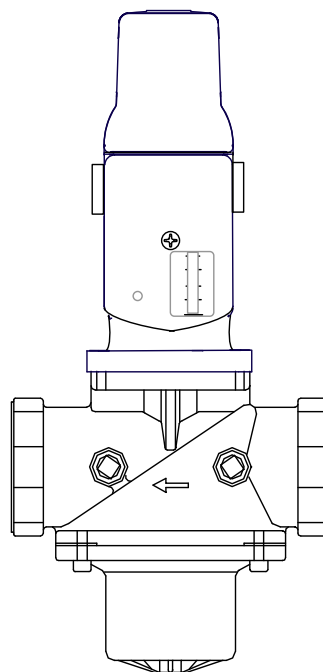

Figure 3-3.
2. The unit checks to ensure that the proof of closure switch in the Safety Shut-Off Valve (SSOV) is closed shown (Figure 3-3).